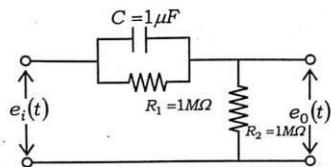

Fig. 1
2. (a) Derive transfer function $\frac{E_0(s)}{E_i(s)}$ for the circuit shown in Fig. 1. 10